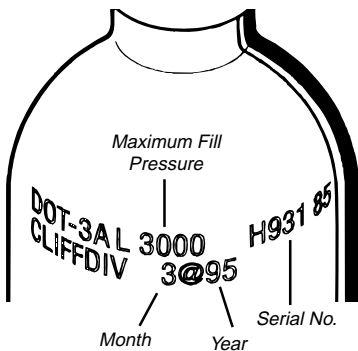

Fig. 2 - Hydro Test /
2. Examine the markings stamped on the cylinder below the neck to determine the month and date of manufacture, which also indicates when the cylinder was hydrostatically tested. (See Fig. 2.) If the markings do not indicate that it has been tested within the past five years, return it immediately to an Authorized Aqua Lung Dealer to obtain visual inspection and a hydrostatic test.